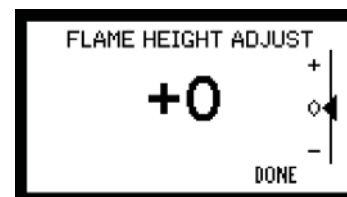

Figure 27.3
- Adjust the flame height using the “FLAME HEIGHT ADJUST” screen on the wall control. **Figure 27.3.**